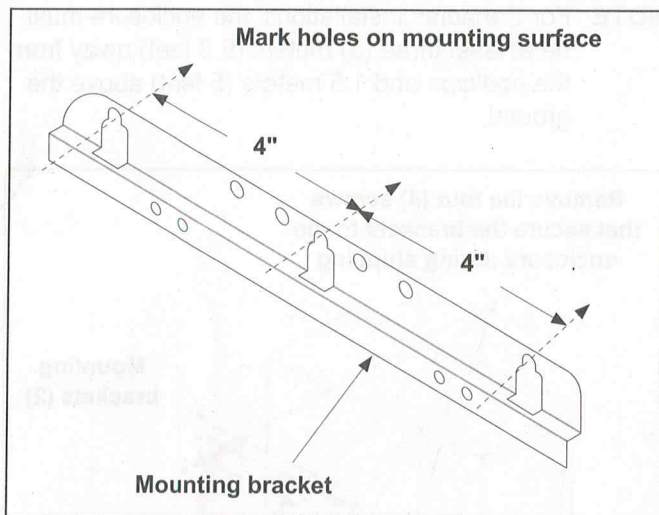

Figure 2. Mark Holes using Power Center Mounting Bracket
3. Using the top mounting bracket as a guide, mark three (3) holes on the mounting surface where the enclosure will ultimately reside (see Figure 2). Drill the holes in the mounting surface, and insert three (3) mounting screws.